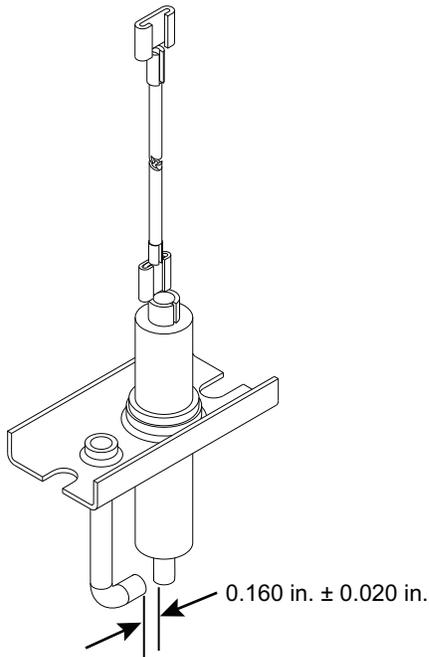

Fig. 54 — Igniter Spark Adjustment (Size 04-06)
4. Remove igniter modules from the top of the burner box assembly. Inspect and adjust the spark gap, if necessary. (See Fig. 54.)